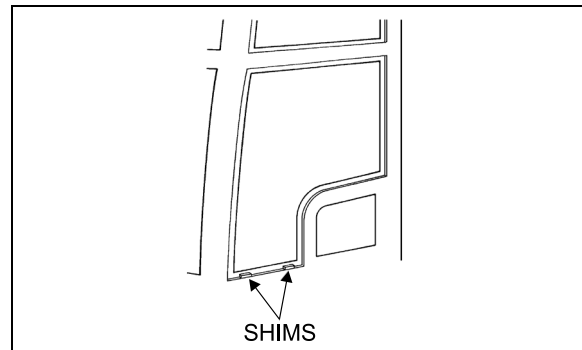

FIGURE 41: ADHESIVE-MOUNTED WINDOW
*Use small shims to raise the glass in proper position. Shims can be cut from the tremshield tape (Figure 41).*